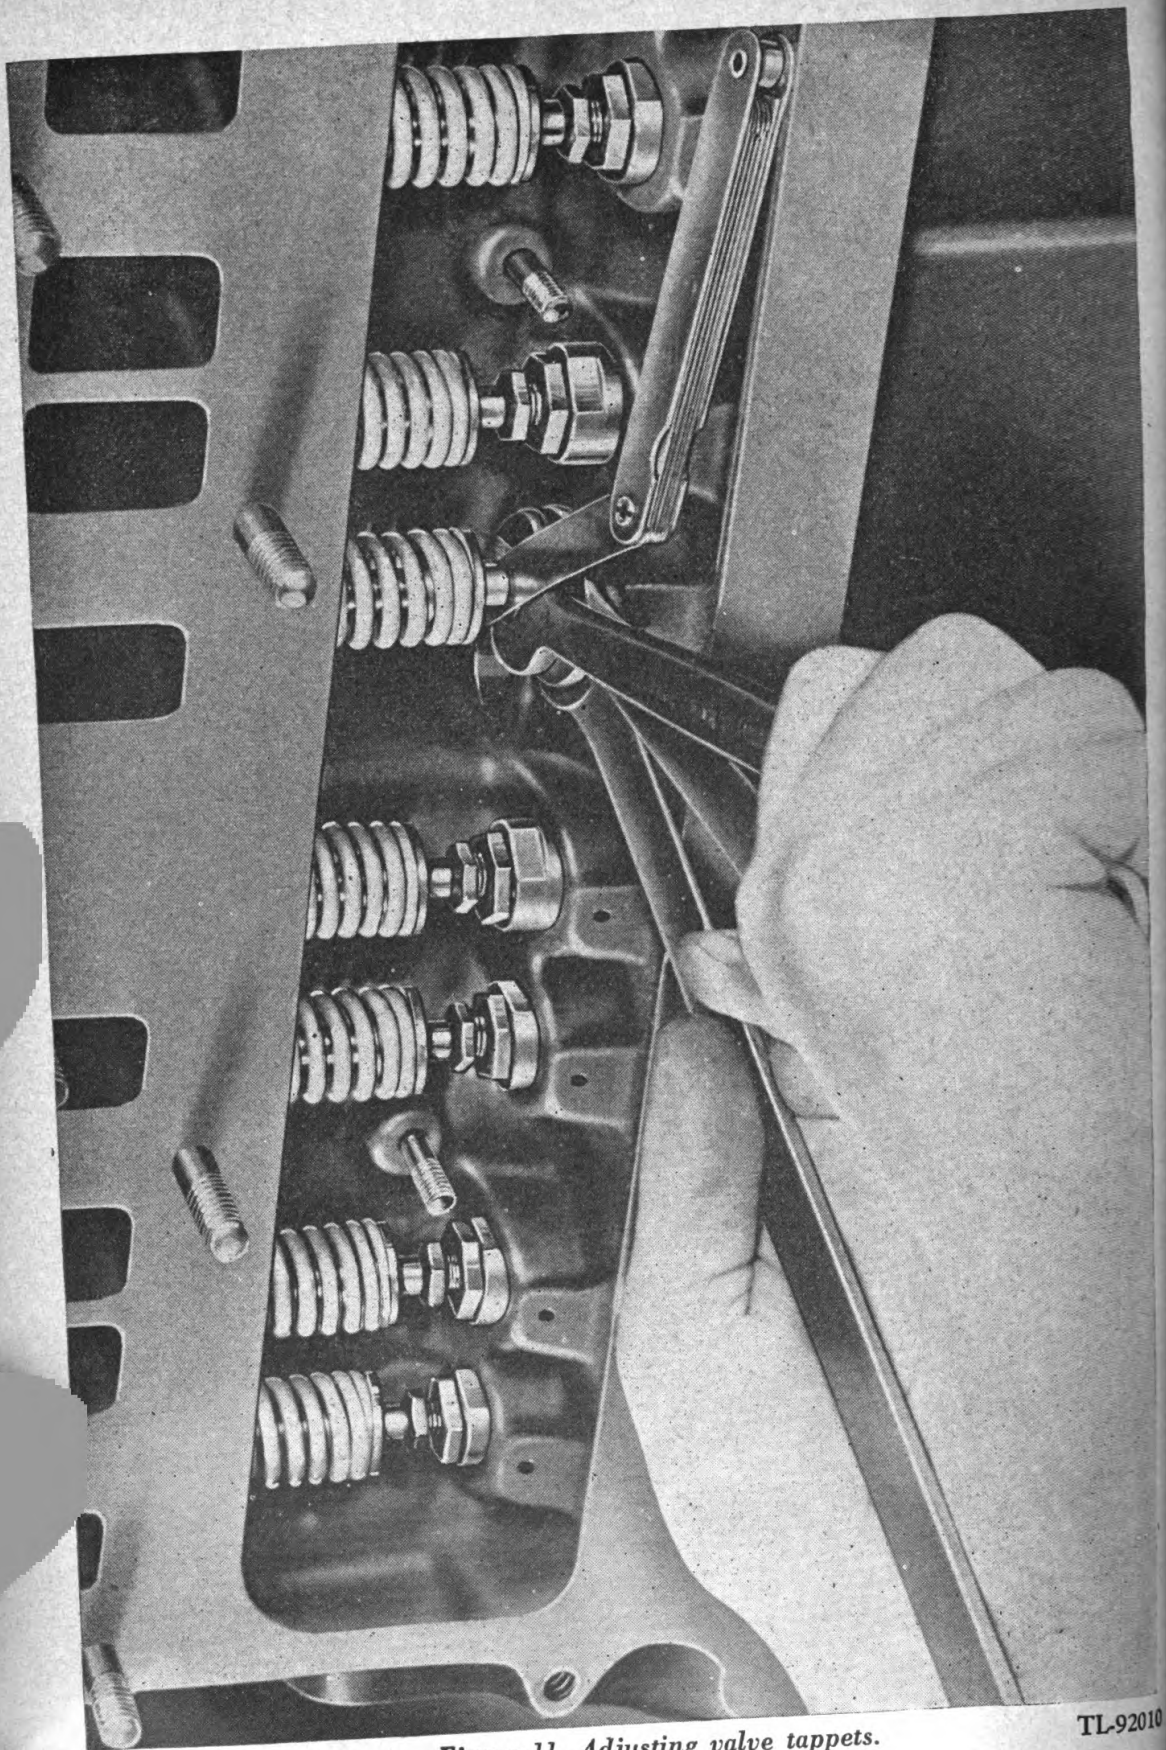

Figure 11. Adjusting valve tappets.
37. ADJUSTING VALVE TAPPET CLEARANCE AND TIMING (fig. 11).